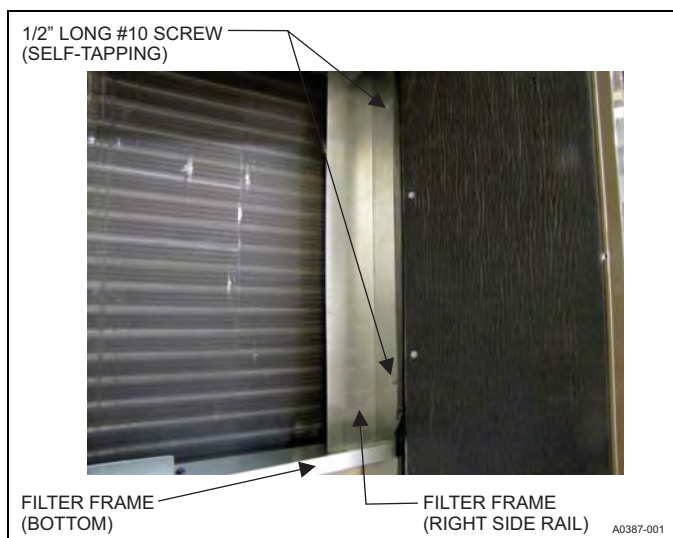

FIGURE 7: Anchor Screws Secure Filter Frame to Compressor Block off Panel
8. Install two 1/2" long self-tapping #10 screws, and secure the right side rail of the filter frame to the compressor block off panel as shown in Figure 7.
- d. Locate the two anchor screw holes in right side rail. If unit was shipped without a factory installed filter frame assembly, use the two anchor holes as a template on compressor block off panel. Install two 1/2" long self-tapping #10 screws, and secure the right side rail of the filter frame to the compressor block off panel. See Figure 7.